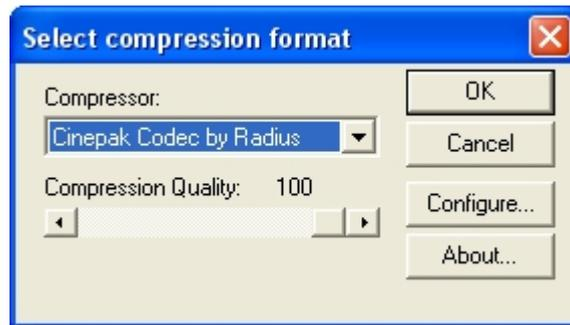

Figure 3.57 Select compression format
7. From the dialog box illustrated in Figure 3.57, select **Microsoft Video 1** from the **Compressor** list and click **Ok** button.